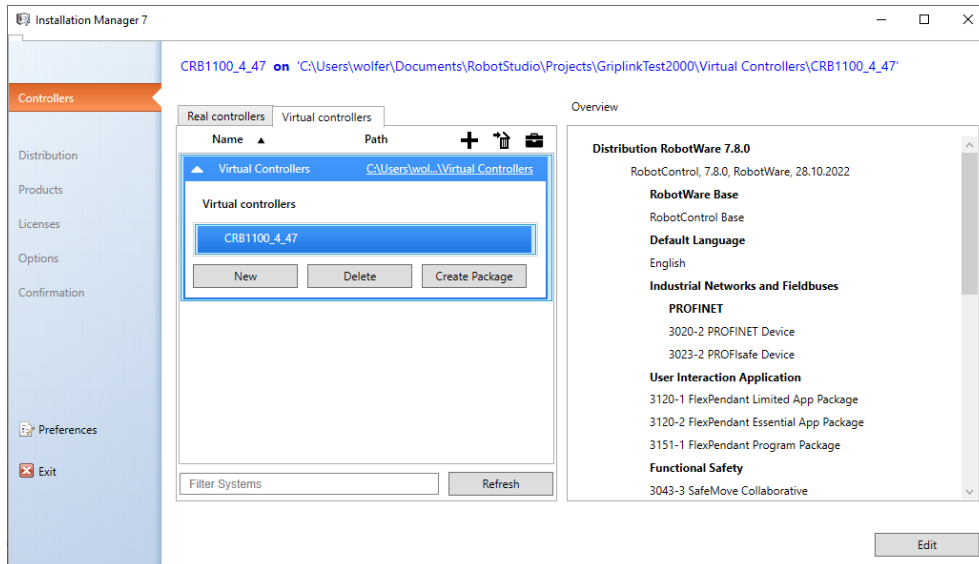

Figure 3
3. Select the controller of your previously opened or created project. This can also be a virtual controller. Note that you might have to adjust the search path for virtual controllers in the preferences on the left (Figure 3).
4. After you've selected the appropriate controller, click on the "Edit" button on the bottom right side of the Installation Manager window (Figure 3).